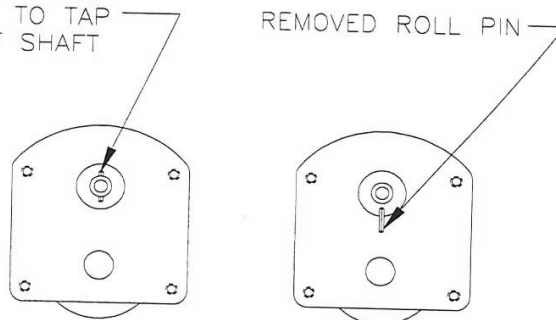

FIGURE 6
7. Using a 3/32 punch and a small hammer, lightly tap the roll pin until it is removed from the motor shaft (See Fig. 6)